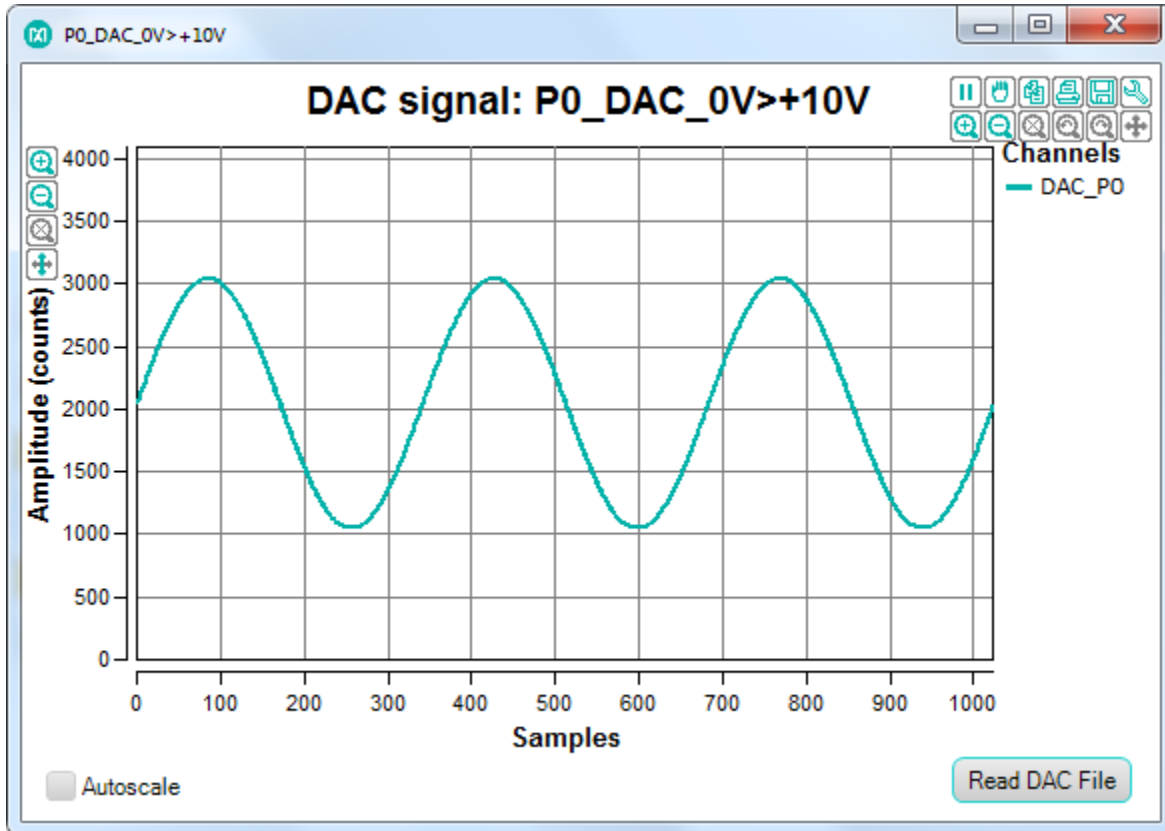

Figure 23. P0_DAC_0V>+10V plot window.
1. Under **Plot Windows** in the drop-down menu at the top right, select **P0_DAC_0V>+10V** and **Get plot box**. A small plot window appears on the screen as shown in **Figure 23**. Click **Read DAC File** and select an analog data point file called **ideal_sine_1000_3x.adc**.